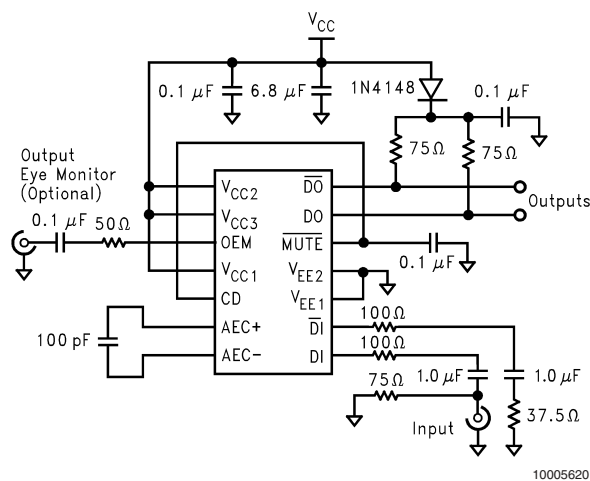

FIGURE 1. CLC014 Equalizer Application Circuit
Carrier Detect (CD) is a CMOS output that indicates the presence of equalized data from the filter. This CD output can be connected to $\overline{\text{MUTE}}$ to suspend changes in the data outputs DO and $\overline{\text{DO}}$, if no valid signal exists. This simple configuration prevents random output transitions due to noise. For sparse transition patterns it is recommended that a capacitor be connected to CD as shown in Figure 1.
The OEM is a high-speed, buffered output for monitoring the equalized eye pattern prior to the output comparator. Its output is designed to drive an AC-coupled 50Ω coaxial cable with a series 50Ω backmatch resistor. The cable should be terminated with 50Ω at the oscilloscope. Figure 1 shows a schematic with a typical connection.
The CLC014 operates from either +5V or -5.2V single supplies. Refer to *Figure 1* when operating the part from +5V. When operating with a -5.2V supply, the V_{EE} pins should be bypassed to ground. The evaluation board and associated literature provide for operation from either supply.